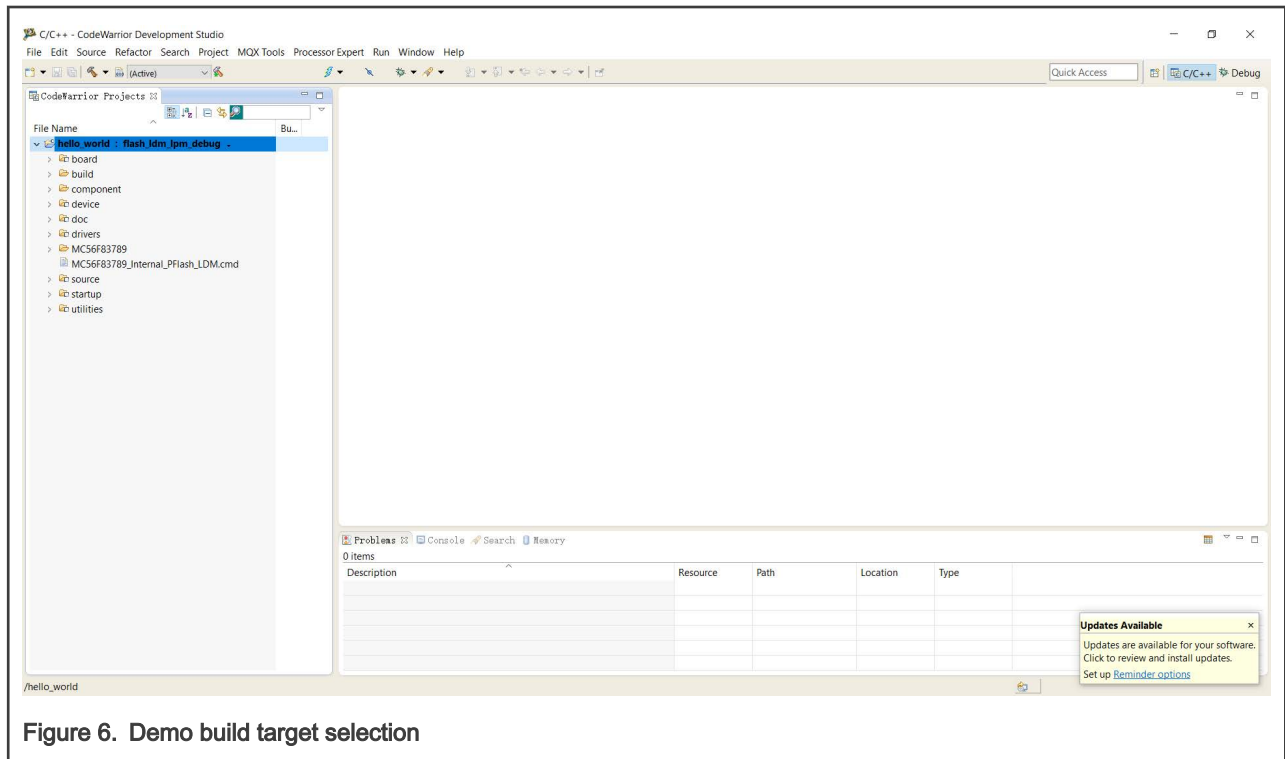

Figure 6. Demo build target selection
3. Select the desired build target from the drop-down menu. For this example, select **hello_world – flash_ldm_lpm_debug**, as shown in Figure 6.